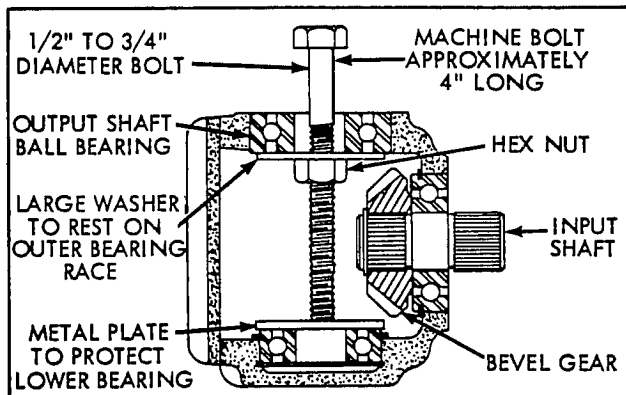

Figure 9-2 Bearing Removal
- (b) Remove the output shaft bearing by using a large machine bolt, washer and nut as illustrated in Figure 9-2.